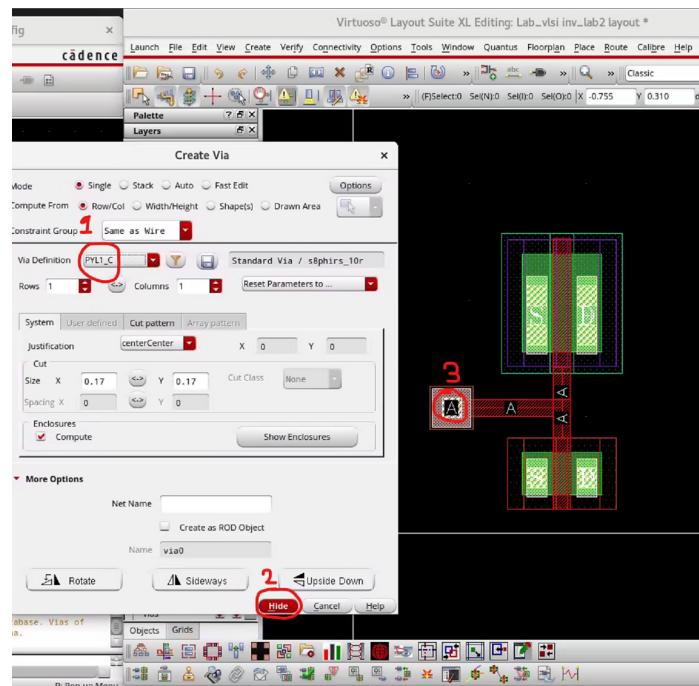

Figure 6: Poly-silicon-Metal1 via creation.
- Place your via on the poly-silicon wire as shown in Fig. 6.